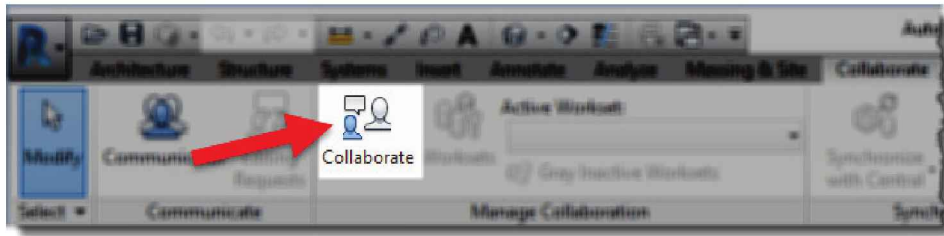

FIGURE 17-4.2 Collaborate tool on Ribbon
2. **USER A:** Click the **Collaborate** tool on the Ribbon (Figure 17-4.2).